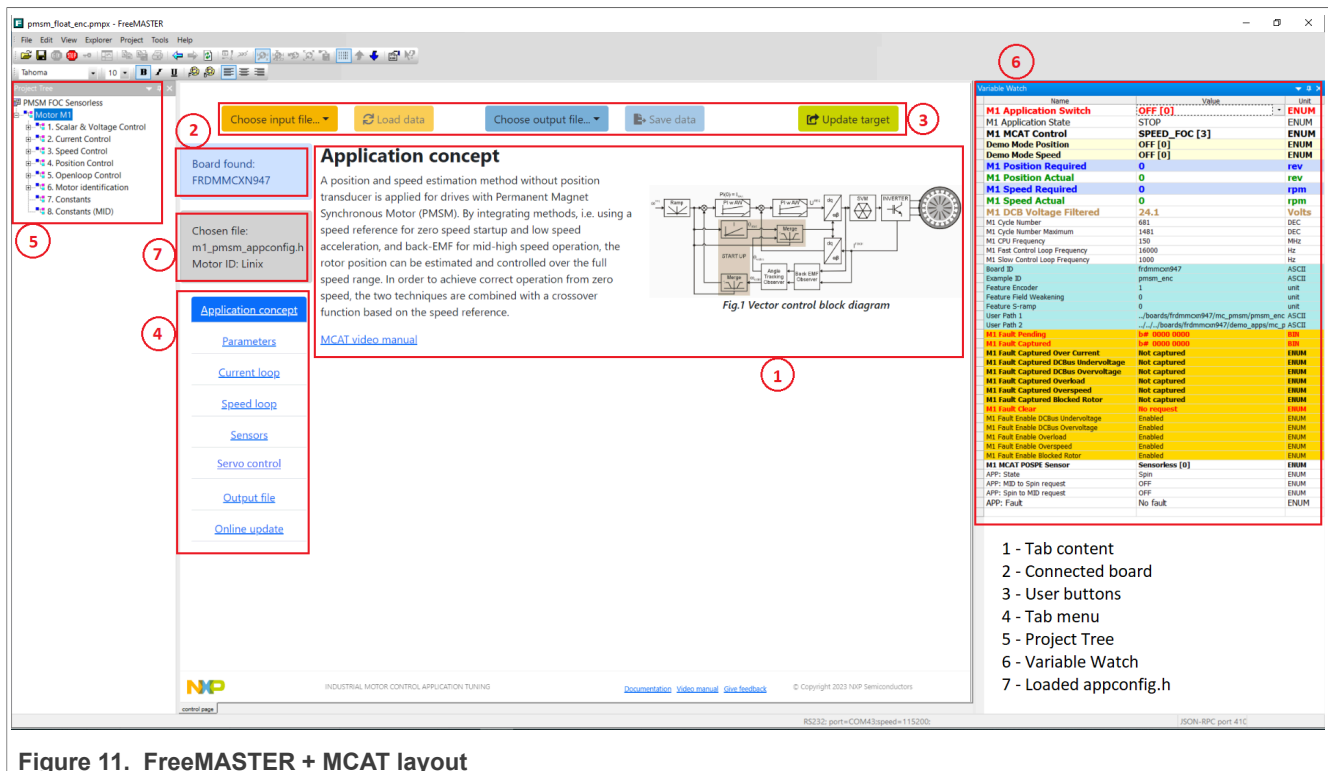

Figure 11. FreeMASTER + MCAT layout
The PMSM sensor/sensorless FOC application can be easily controlled and tuned using the Motor Control Application Tuning \(MCAT\) plug-in for PMSM. The MCAT for PMSM is a user-friendly page, which runs within the FreeMASTER. The tool consists of the tab menu and workspace as shown in Figure 11. Each tab from the tab menu (4) represents one submodule which enables tuning or controlling different application aspects. Besides the MCAT page for PMSM, several scopes, recorders, and variables in the project tree (5) are predefined in the FreeMASTER project file to further the motor parameter tuning and debugging simplify.